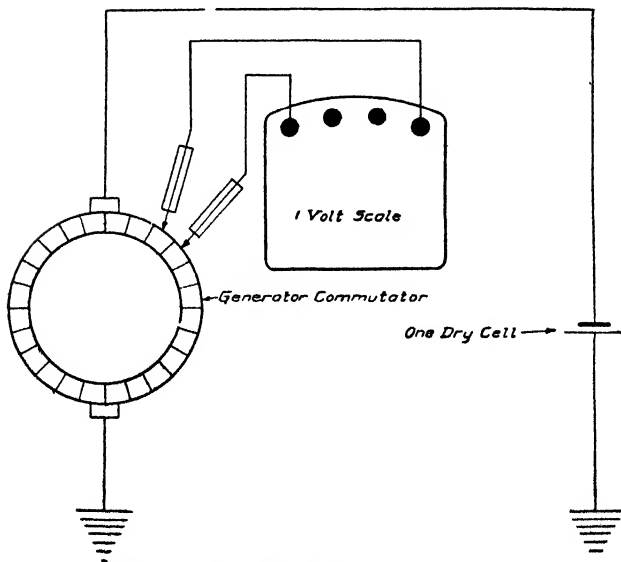

Fig 58 Diagram of Set-Up when Coils Are Short-Circuited
the armature, it should be tested for short-circuited coils. This should be done only after the preceding tests have been made, as an open-circuited coil might cause the .1-volt scale of the voltmeter to burn out if this test were made first. The armature is connected as indicated in (1), but for this test the .1-volt scale instead of the 3-volt scale of the voltmeter is used, Fig. 58. The voltage drop between adjacent commutator bars is then measured by slowly turning the commutator over by hand. The readings should be approximately the same. If any of them drop nearly to zero, it will indicate that one or more of the armature coils are short-circuited. In taking these readings, care must be observed to keep the points